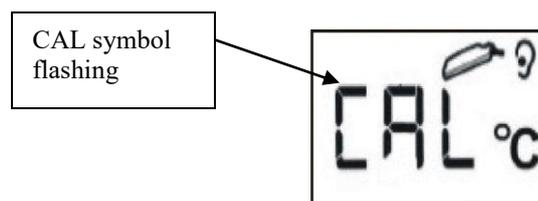

Figure 16: Display – calibration mode
- When the “CAL” will be displayed and flashing, release all buttons (see Figure 16)